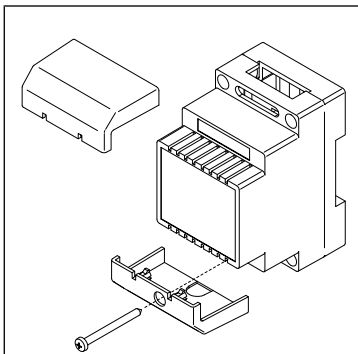

Fig. 3
1. Remove the terminal side covers by unscrewing the retaining screws (Fig. 3);